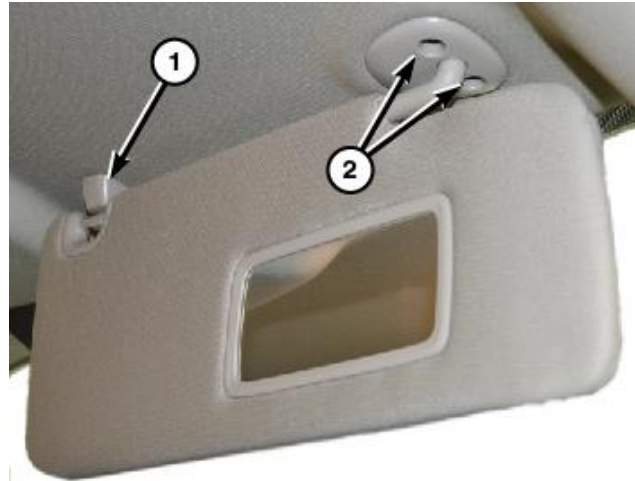

Figure 7 – Visors
11. Separate the visor from the support (1) then remove the screw and remove the visor support (Figure 7).
12. Remove the visor screws (2) then remove the visor (Figure 7).
36. Position the visor supports (1) onto the headliner and install the screws into the mounting clips (Figure 7).
38. Position the visor to the headliner and install the screws (2) that secure the visor to the roof panel. Tighten the screws to 6 N·m (53 in. lbs.) (Figure 7).